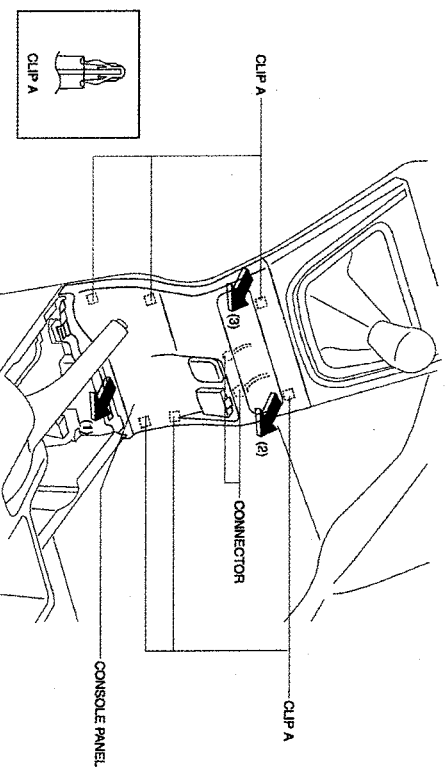

FIGURE 9
- 1.) PULL THE CONSOLE PANEL IN THE DIRECTION OF THE ARROWS (1), (2) AND (3) WHILE DETACHING CLIPS A. (SEE FIGURE 9)
- 2.) DISCONNECT THE CONNECTORS. (SEE FIGURE 9)